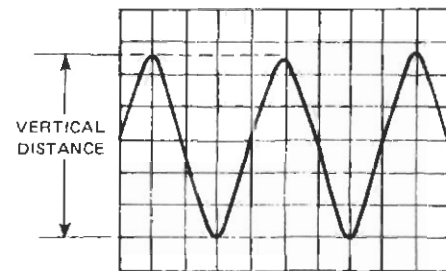

Figure 2-13. Peak-to-peak voltage measurement
2. Adjust the TIME/DIV switch (20) or (21) to display two or three cycles of waveform, and set the VOLTS/DIV switch (11) for the largest-possible totally-on-screen display.
3. Use the appropriate Vertical Position control (14) or (15) to position the negative signal peaks on the nearest horizontal graticule line below the signal peaks, per Figure 2-13.
4. Use the Horizontal Position control (24) to position one of the positive peaks on the central vertical graticule line. This line has additional calibration marks equal to 0.2 major division each.
5. Count the number of divisions from the graticule line touching the negative signal peaks to the intersection of the positive signal with the central vertical graticule line. Multiply this number by the VOLTS/DIV switch setting to obtain the peak-to-peak voltage of the waveform. For example, if the VOLTS/DIV switch were set to 2V, the waveform shown in Figure 2-13 would be 11.2V p-p (5.6 div \times 2V).
7. If measuring a sine wave below 100 Hz, or a rectangular wave below 1000 Hz, set the AC/GND/DC switch (13) to DC.